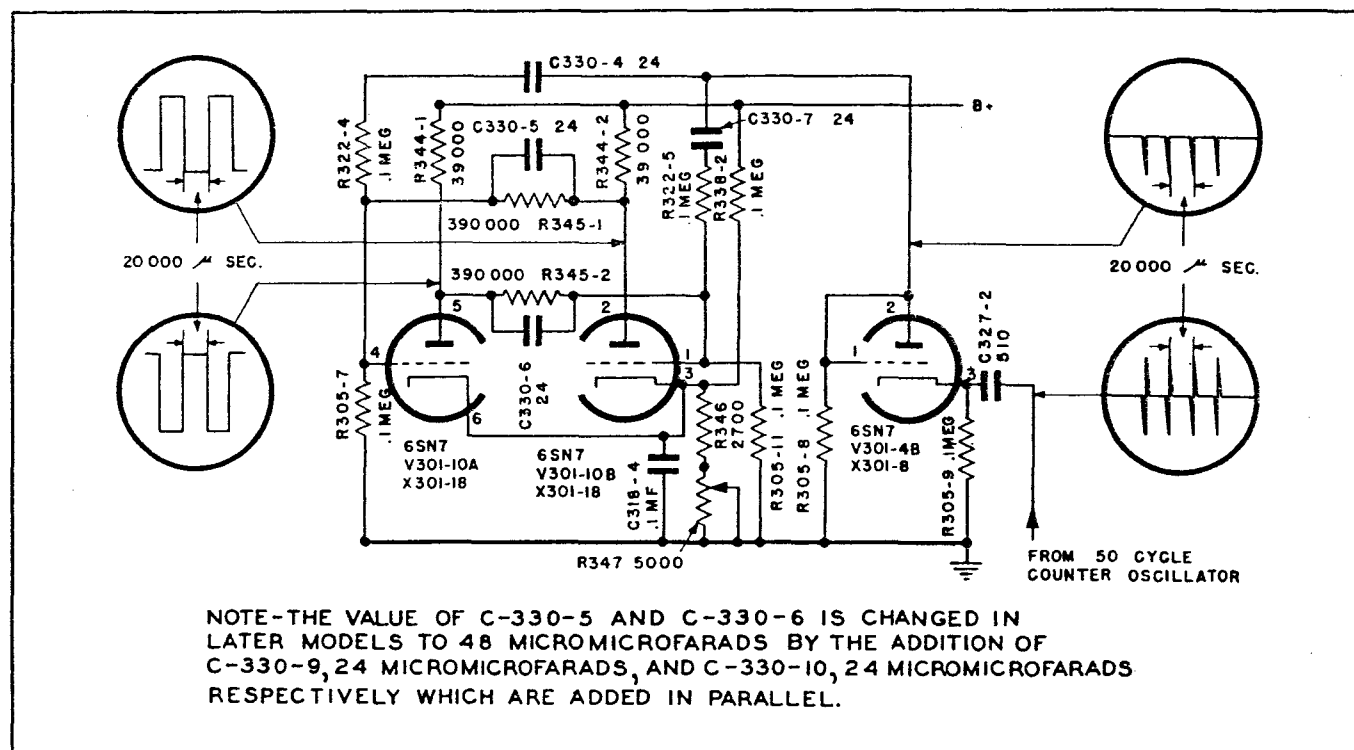

Figure 4-18. Square Wave Generator
(5) SQUARE - WAVE GENERATOR. — Multivibrator V-301-10 is a duo-triode which with its associated circuit, the two halves of which are symmetrical, constitutes an oscillator whose output is essentially a square wave. This type of multivibrator is derived from the Eccles Jordan trigger circuit. For circuit details see figure 4-18. Associated with tube V-301-10 in this circuit is another tube, V-301-4B which is used to provide negative synchronizing pulses, by inverting positive pulses taken directly from the plate of the fourth counter triode. These negative pulses are used to trigger the square-wave generator, once every 20,000 (approximately), microseconds.